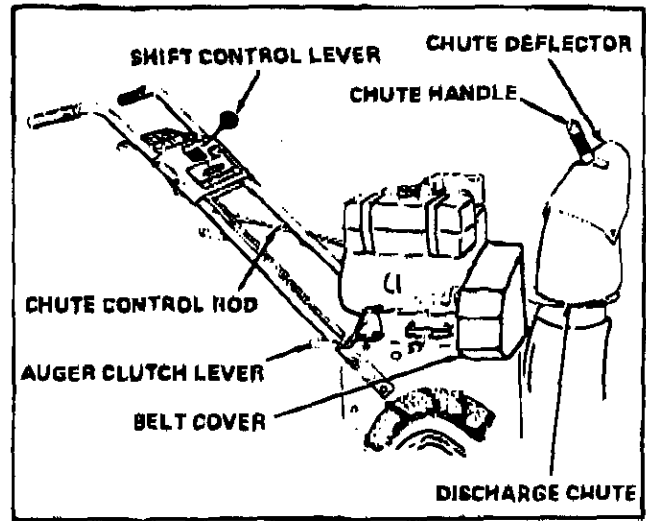
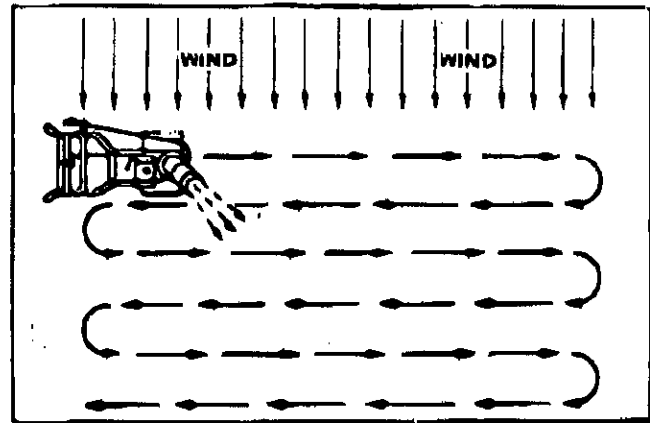
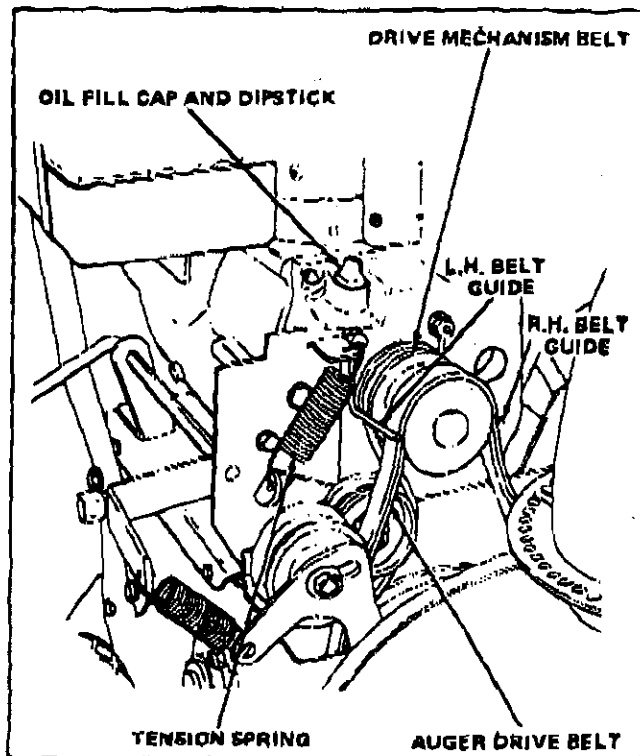

Figure 11
Figure 14
Figure 16
Operating controls (figure 11) and their functions are as follows:
- o **Chute Deflector** – The distance that the snow will be discharged can be adjusted by moving the deflector chute up or down using the chute handle mounted on the deflector chute (figure 11).
The most effective use of the snow thrower will be established by experience, taking into consideration the terrain, wind conditions, location of buildings and the depth and weight of the snow. It is the wind conditions and building location which will determine the direction of the discharge chute (figure 11). Since the wind will tend to blow the discharged snow back into the cleared area, it will be necessary to change the chute direction to offset this condition as shown in figures 14 and 15. Do not discharge snow toward a building, as hidden objects could be thrown with sufficient force to cause damage. To engage the self-propelling drive mechanism, proceed as follows:
2. Using the chute control rod (figure 11), position the discharge chute to discharge the snow with the wind, or away from buildings.
3. Move auger control lever to ENGAGE position. The auger will start turning (figure 11).
This unit is equipped with two drive bolts located just in front of engine under belt cover (figure 11). Figures 16 and 17 show both bolts and idler pulleys. Tension spring and idler pulley should keep drive mechanism belt (nearest to engine) firmly in contact with engine pulley at all times.
2. Release idler pulley tension spring (figure 16).
- A. Remove oil fill cap and dipstick (figure 16, page 9).